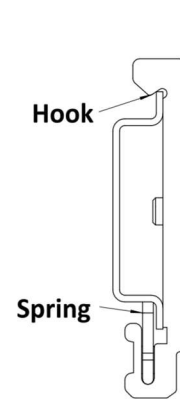

Fig. 4
1. Place the bottom edge of the DIN rail under the spring of the DIN rail mount (Fig. 4).
3. Attach the DIN rail mount hook to the upper edge of the DIN rail (Fig. 4).